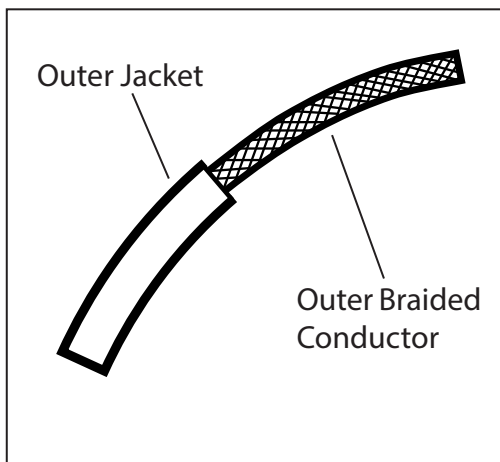

Fig. 1
2. Carefully strip the outer jacket of the cord and keep the outer braided conductors intact (Fig. 1).